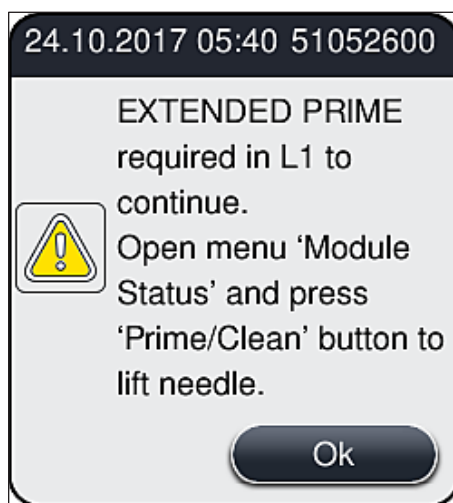

Fig. 99
2. Take note of the information message that follows (→ Fig. 99) and acknowledge with the **Ok** button.